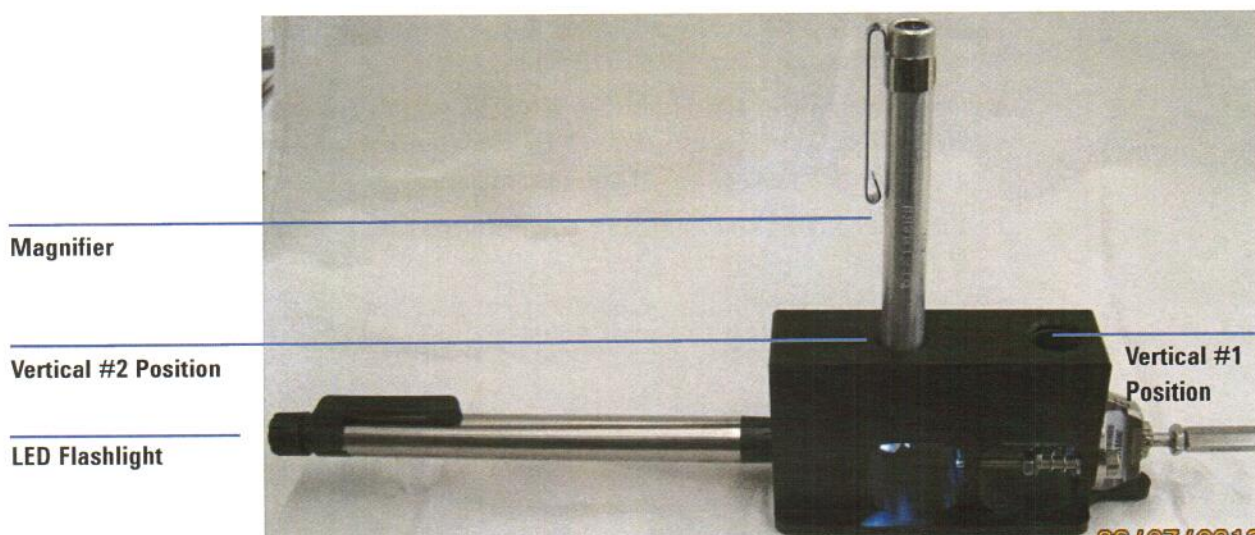

Figure 2 Setup to inspect the side of the nebulizer
- 3 To inspect the *side* of the nebulizer for the correct needle adjustment length, damaged needle, or corroded nozzle (Figure 2):